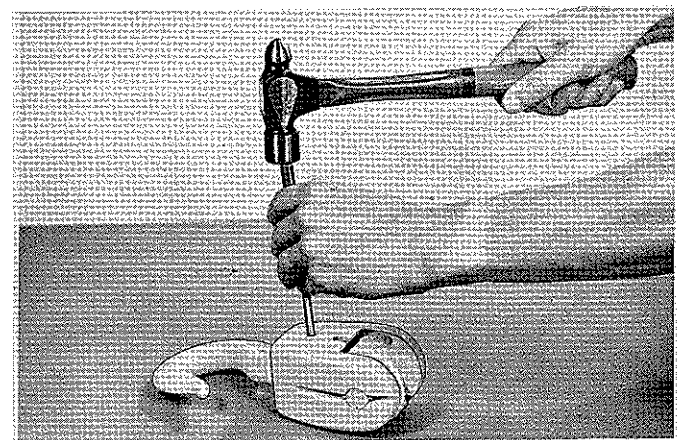

Figure 6-11. Driving Groove Pin from Hook Nut
- Align groove pin in hook nut with hole in block body and drive out pin with a drift punch. See Figure 6-11.